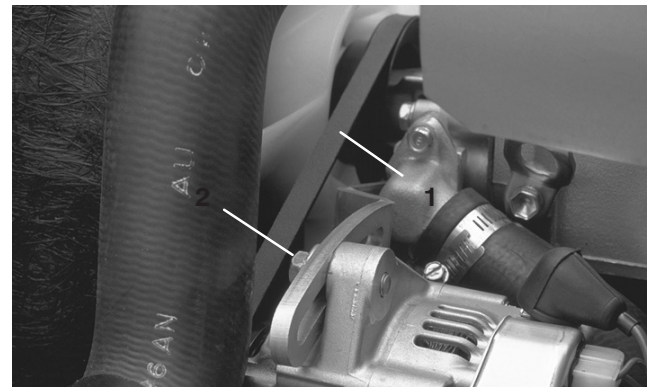

Figure 40
2. Loosen bolt securing brace to engine and bolt securing alternator to brace (Fig. 40).
1. Loosen bolts securing brace to engine and alternator to brace (Fig. 40).